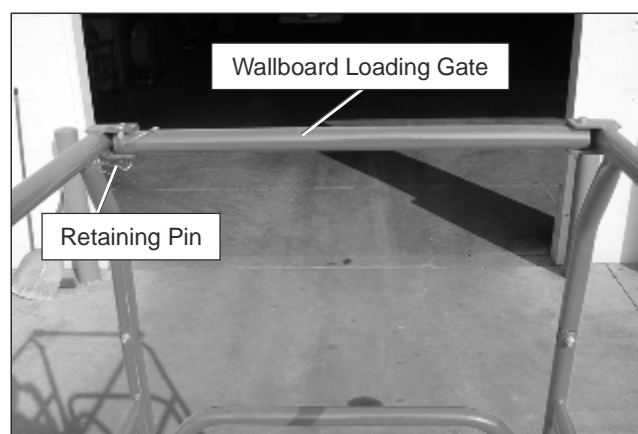

Figure 9.5 – Rear of Platform
1. Remove the retaining pin (refer to Figure 9.5) from the wallboard loading gate.